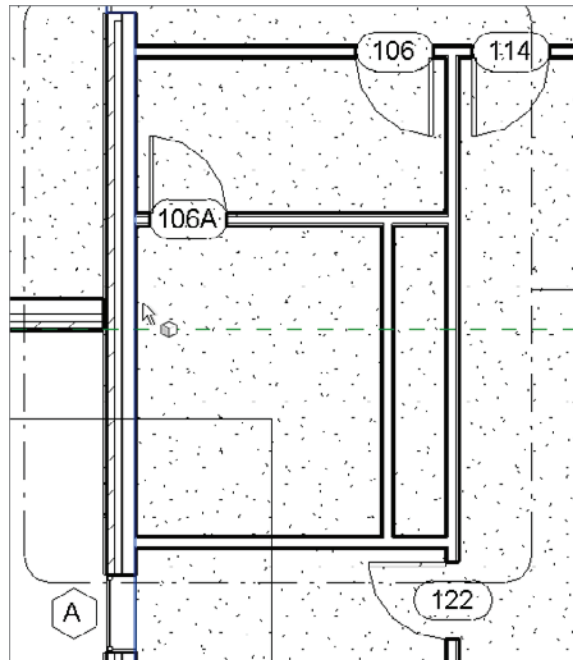

FIGURE 6.40 Finding the edge of the floor
3. Move your cursor into the lavatory area, as shown in Figure 6.40.
4. Notice that there is a little cube at your cursor. Hover your cursor over the wall shown in Figure 6.40. You should get a tooltip telling you that you are directly over the floor. When you see this indication, pick the floor.